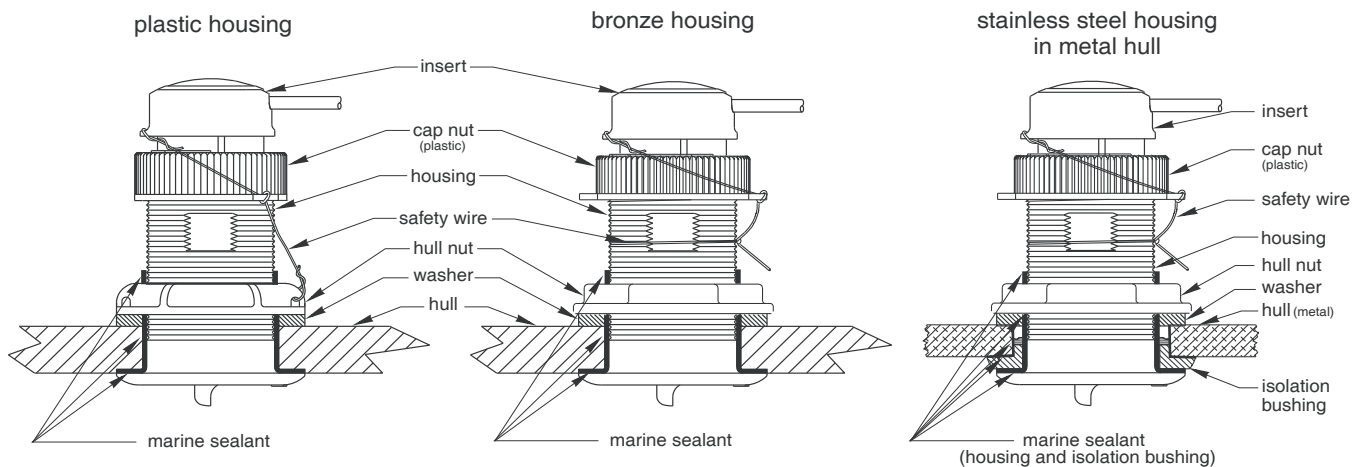

Figure 3 – Bedding and Installation
Apply a 2 mm (1/16") thick layer of marine sealant around the lip of the housing that contacts the hull and up the sidewall of the housing. The sealant *must* extend 6 mm (1/4") higher than the combined thickness of the hull, washer(s), and hull nut (see Figure 3). This will ensure there is sealant in the threads to seal the hull and hold the hull nut securely in place.
1. From outside the hull, push the housing into the mounting hole using a twisting motion to squeeze out excess sealant (see Figure 3). *Align the arrow on the lip of housing to point forward toward the bow.* If the DST110 is not installed on the centerline, angle the housing slightly toward the centerline to align it with the water flow.